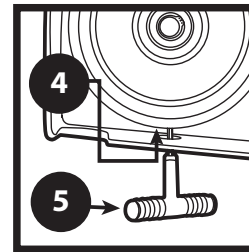

FIGURE 13
4. Loosen the retaining nut that locks the upper idler wheel adjusting screw. (Figure 13) Using screw adjust the upper idler wheel until a straight line representing the plane passing through the center of the upper idler exactly passes through the center of the contact wheel. This line represents the center of belt travel. Note: make certain that the bearing support is against the screw end.